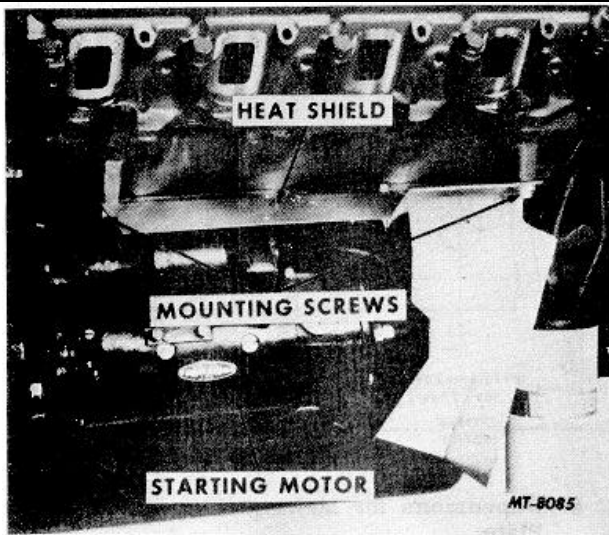

Fig. 7 Manifold Heat Shield
- b. Remove exhaust manifold heat shield (Figure 7).
- a. Remove both exhaust manifolds and exhaust manifold heat shield (Figure 7).